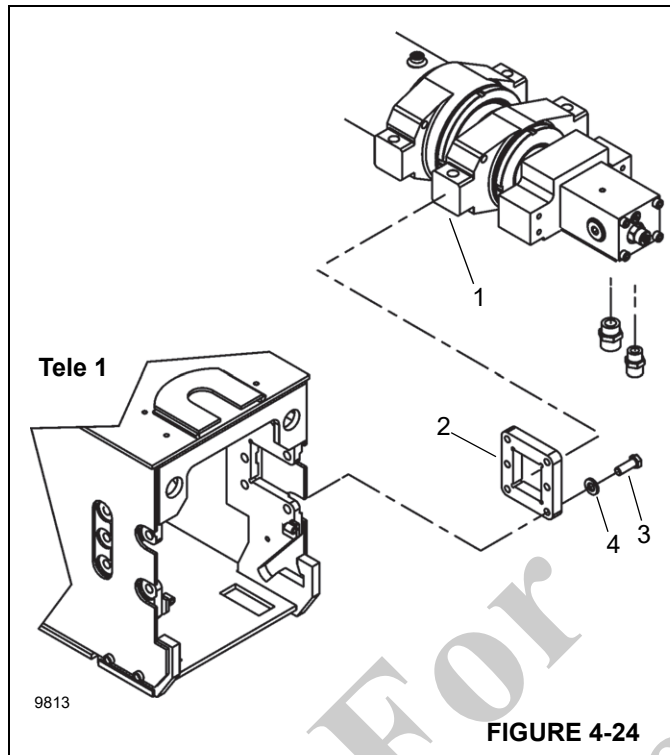

FIGURE 4-24
7. Loosely install trunnion plates (2, Figure 4-24) on telescope cylinder flanges (1).
10. Install cap screws (3, Figure 4-24), washers (4), and trunnion plates (2) to secure the telescope cylinder to the Tele 1 section boom.